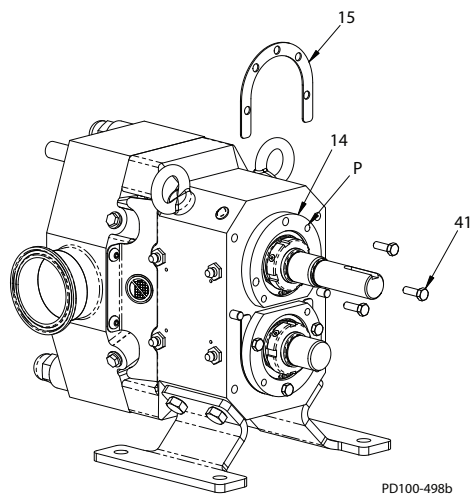

Figure 58 - Install Shims
3. Choose a combination of shims (Figure 58, item 15) to achieve a thickness as close as possible to the calculated amount. Do not exceed the calculated amount.
4. Remove the bearing case screws (Figure 58, item 41), install the shims selected in Step 3, and re-install the screws. To provide clearance for the shims, move the shaft toward the rear by tapping gently on the rotor with a soft-faced mallet or by installing two screws in the jacking holes (item P) in the bearing case flange (item 14).